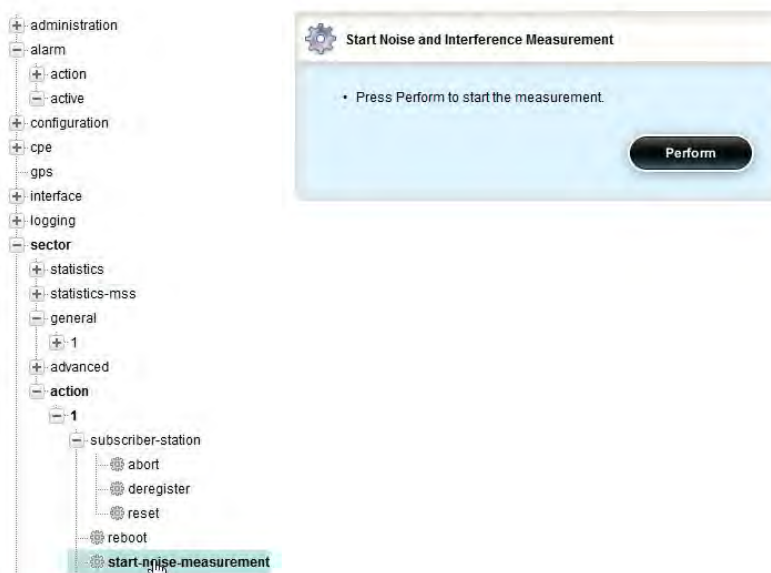

Figure 63 Start Noise Measurement
- **Start-Noise Measurement.** Hit Perform and the action will put the sector in a special mode to measure noise and interference (Figure 63), results will be available after a short time